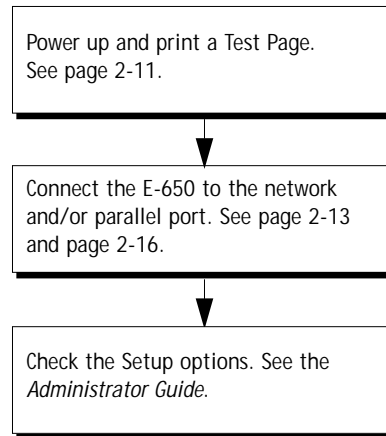

FIGURE 4-15 E-650 connection verification steps
7. Before you leave the customer site, verify E-650 operation (see Figure 4-15 on page 4-25).